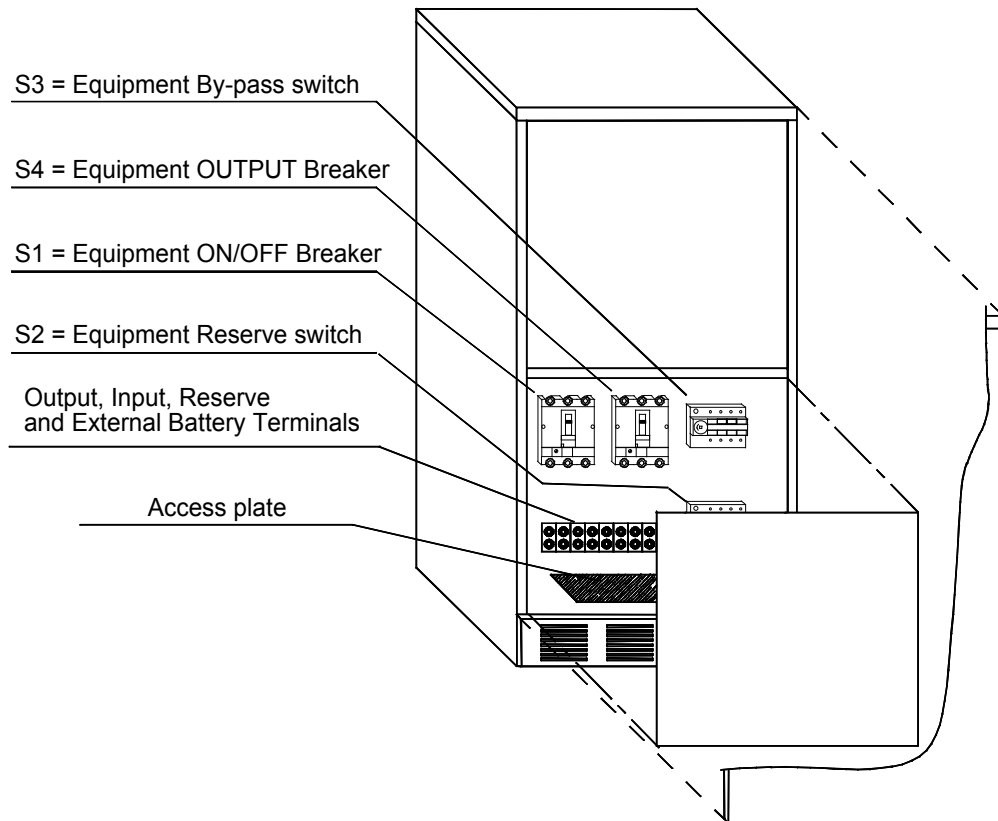

Figure 22 - 36 – 24/30/36kVA: Connections
- a) Remove front panel see Figure 22.